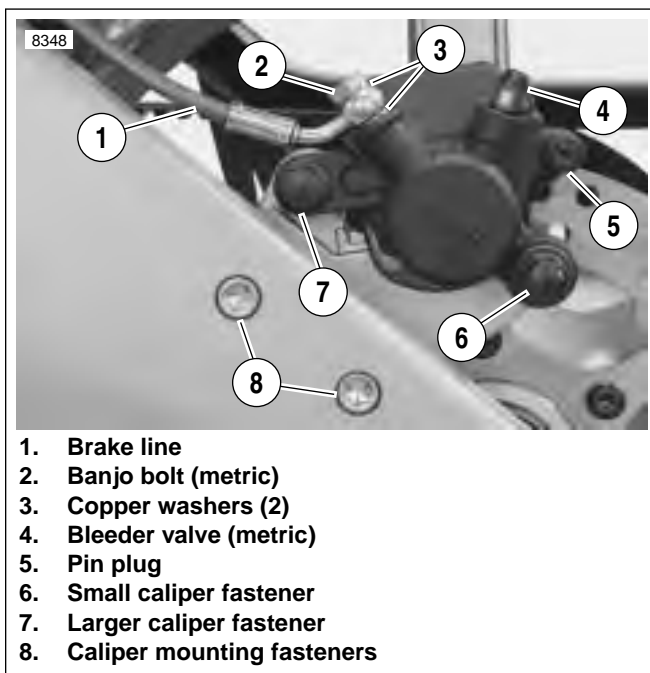

Figure 2-58. Rear Brake Caliper
4. See Figure 2-58. Connect brake light switch connector underneath seat. See D.1 HOSE AND WIRE ROUTING for brake line routing.
3. See Figure 2-58. Remove caliper mounting fasteners (6 and 7).
1. See Figure 2-58. Remove pin plug (5) and pad hanger (metric) to free brake pads.
1. See Figure 2-58. Install caliper assembly on caliper mount. Brake pad surfaces must face rear brake rotor.
- a. Install large caliper screw (7) (metric) tightening to 18-21 ft-lbs (24-28 Nm).
- b. Install small caliper screw (6) (metric) tightening to 14-18 ft-lbs (19-24 Nm).
- c. Install caliper carrier onto swingarm tightening caliper carrier fasteners (8) to 24-26 ft-lbs (33-35 Nm).
2. See Figure 2-58. Connect brake line (1) to caliper using two **new** copper washers (3) and banjo bolt (2) (metric). Tighten to 16-20 ft-lbs (22-27).